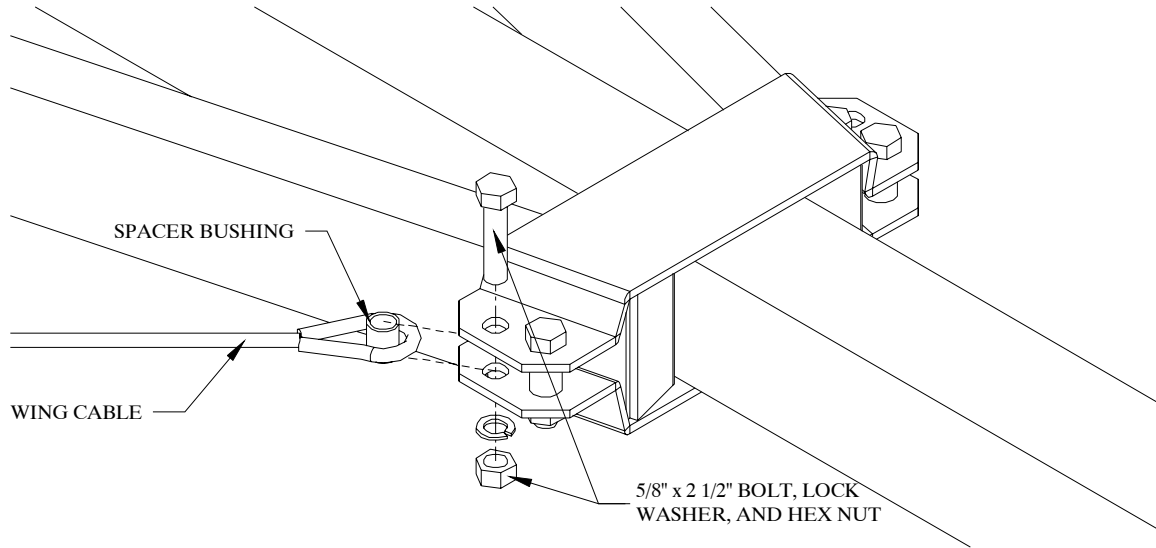

Figure 9
1. Insert 7/8" OD x 5/8" ID x 1" bushings into the ends of the wing cables and bolt them between the hitch caps. Refer to Figure 9. Use 5/8" x 2 1/2" bolts, lock washers, and hex nuts. Tighten all four of the 5/8" bolts on the hitch cap.